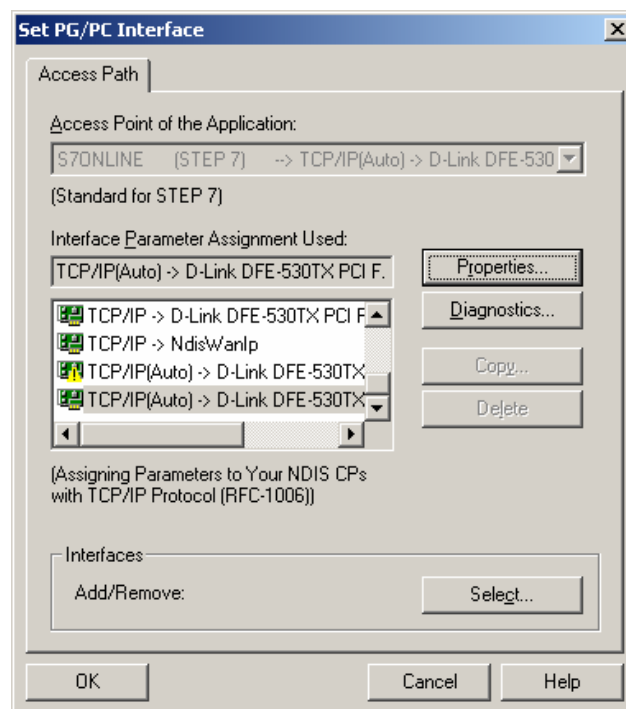

Figure 6
3. Change the PG/PC Interface to TCP/IP (AUTO), as shown in figure 6.